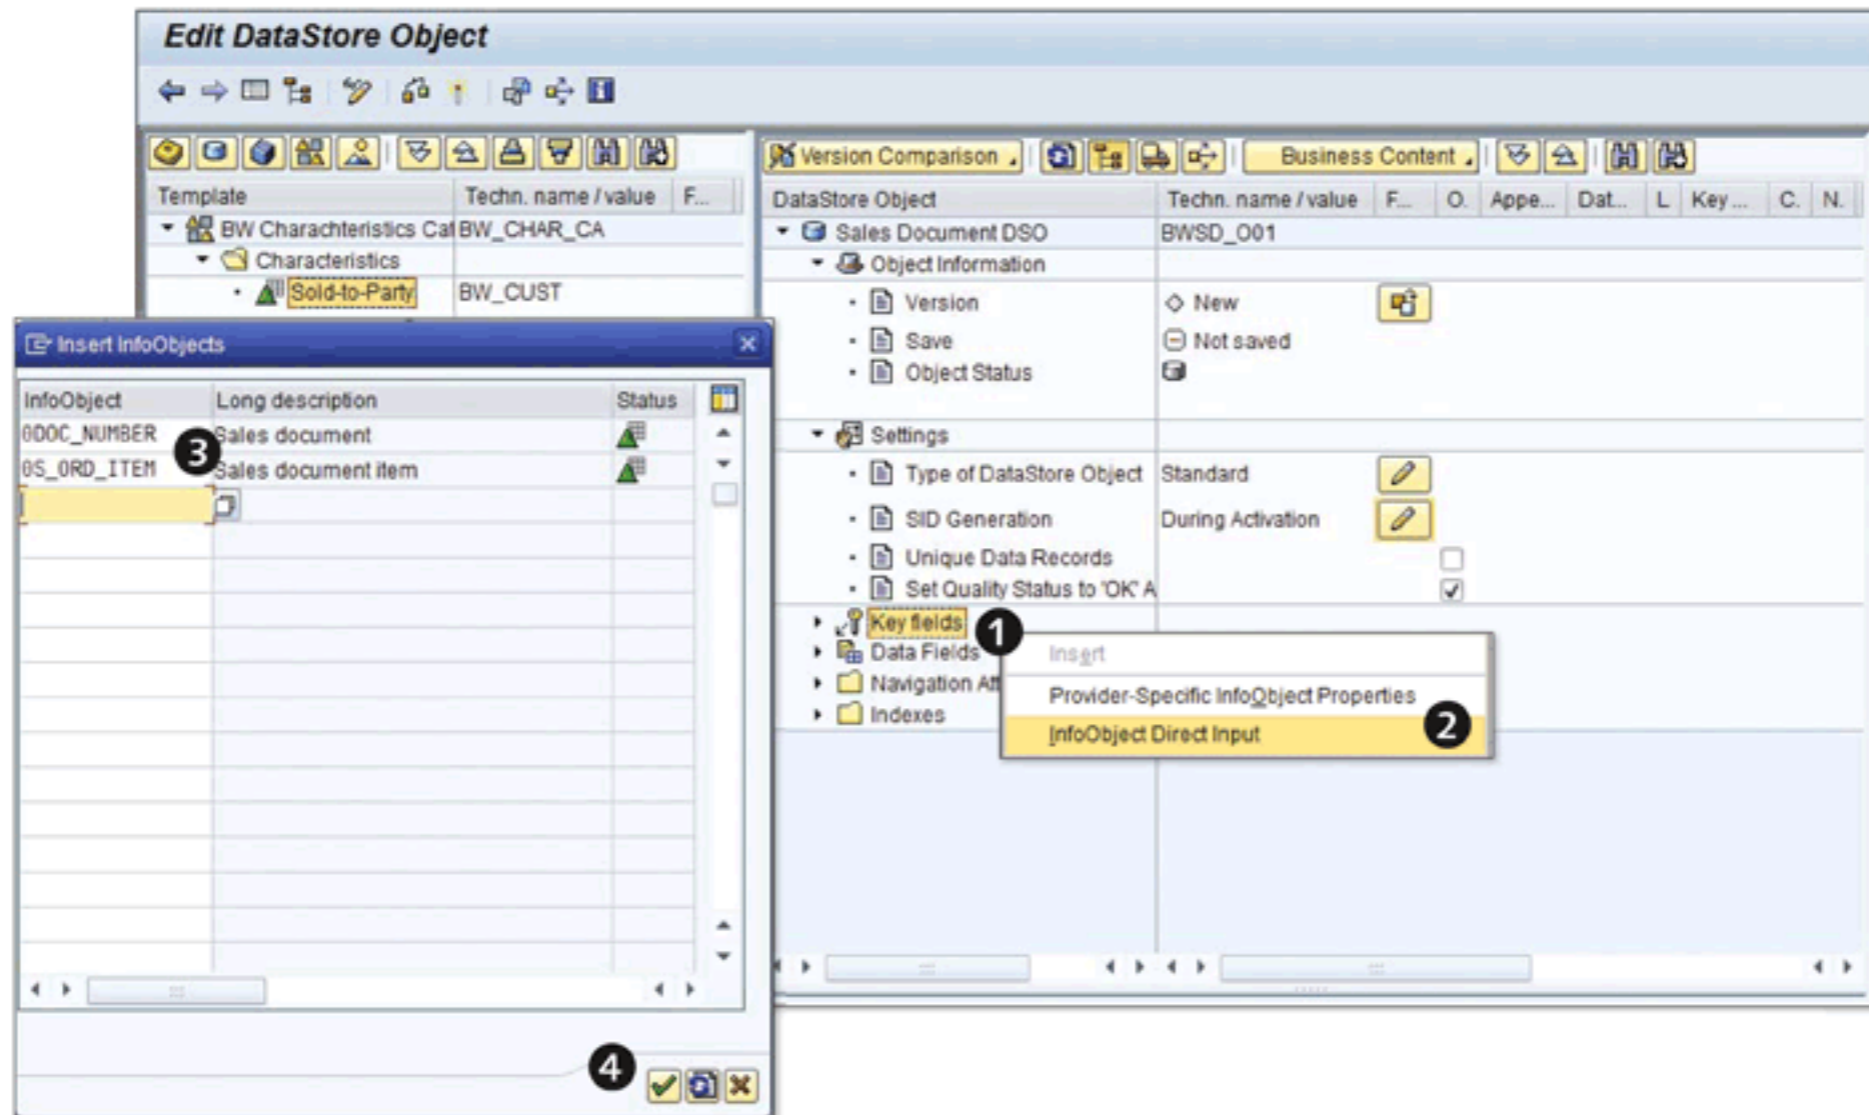

Figure 4.12 Edit DSO: Direct Input
If you already know the technical names of the InfoObjects you want to include in the design of your DSO, you can use this method. Referring back to our case study scenario, the key fields of DSO BWSD_O01 are BILLING DOCUMENT NUMBER or SALES DOCUMENT NUMBER (InfoObject ODOC_NUMBER) and BILLING ITEM NUMBER or SALES DOCUMENT ITEM (InfoObject OS_ORD_ITEM). Because the names of these InfoObjects are already known, we can use the direct-input method. Select the key fields, as shown on 1 of Figure 4.12. Using the context menu, select the INFOOBJECT DIRECT INPUT option (2).
Type the technical name of the InfoObjects you want to include as key fields of the DSO. Enter "ODOC_NUMBER" and "OS_ORD_ITEM," as shown in 3 of Figure 4.12, and press `[Enter]`. (SAP NetWeaver BW automatically checks the entered